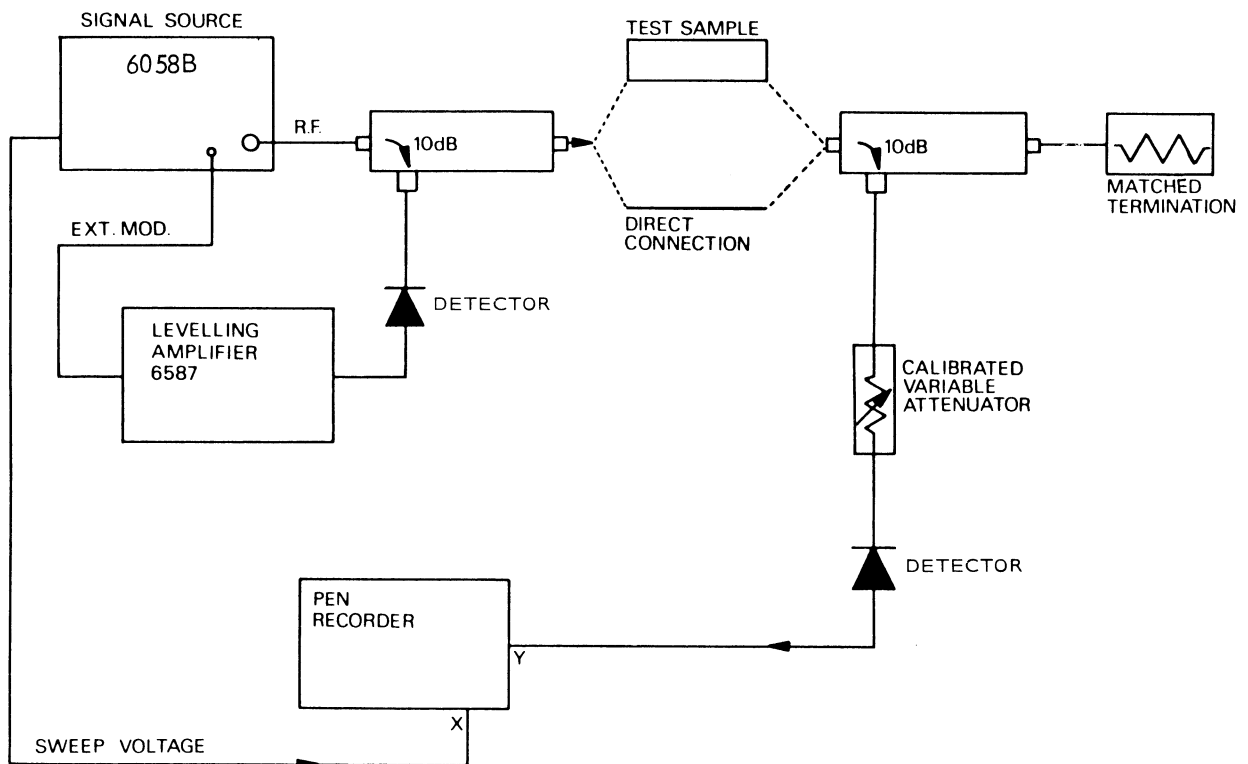

Fig. B1 Transmission Loss Measurements
B. Manual Swept Frequency Measurement of Transmission Loss. Using the equipment as shown in Fig.B1 it is possible to make transmission loss measurement over the complete frequency range